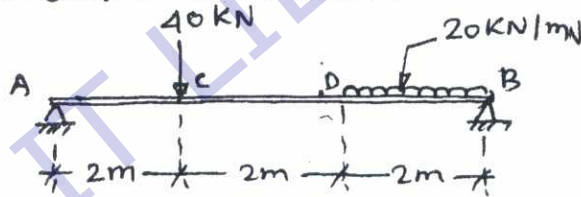

Fig.Q7(b)
b. Find the maximum deflection and the maximum slope for the beam loaded as shown in Fig.Q7(b). Take flexural rigidity $EI = 15 \times 10^9\text{ kN}\cdot\text{mm}^2$. (12 Marks)